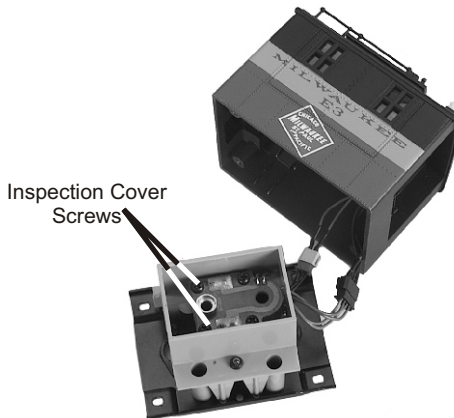

Figure 10. Inspection Cover Screw
1. Once the boiler has been removed, locate the smoke unit assembly (Figure 10).
2. Use a phillips head screwdriver to remove the inspection cover screws as seen in Figure 10.